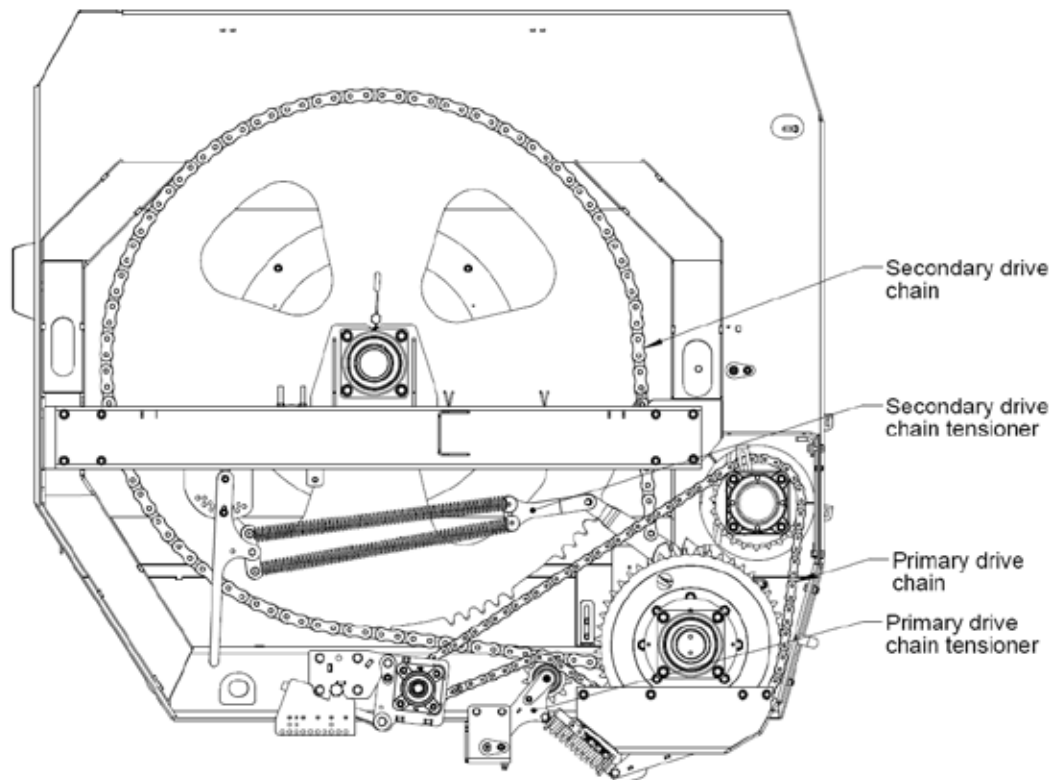

Figure 9: Front panel of KEENAN MechFiber Mixer Wagon
1. Each week check the condition of the chain tension arms and adjust as required. There are two chains used on the KEENAN MechFiber model. The primary drive chain (ASA120) drives the idler shaft and the auger shaft from the input shaft (see figure 9) and the secondary chain (ASA160SH) drives the rotor. Both chains are tensioned by spring assemblies on the slack side of the chain.